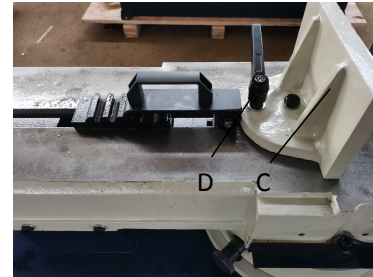

Fig.11
5. Pivot the right vise jaw (C) all the way to the left, as shown in Fig. 11, and lock spring loaded clamp handle (D).
6. Using a combination square, place one end of the square against the vise jaw and the other end against the blade, as shown in Fig. 11. And check to see if the vise jaw is at 45 degrees to the blade or not.